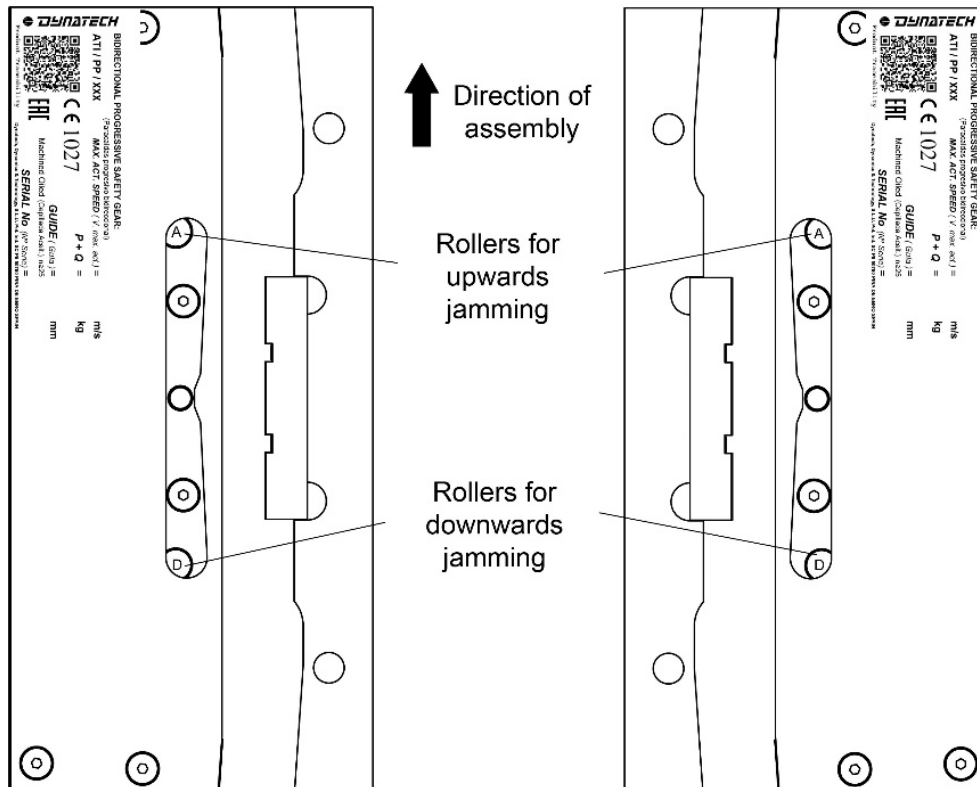

Figure 4: Direction of assembly
- a) The safety gears should be assembled in the position displayed in Figure 4